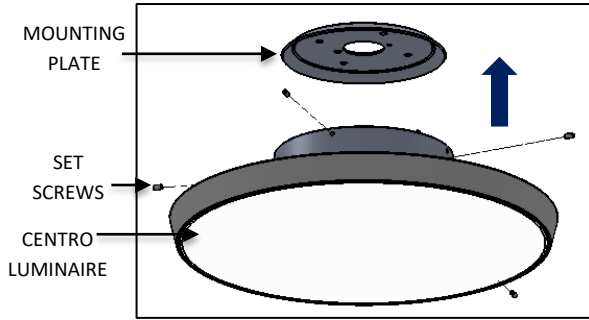

FIG. 4- MOUNTING PLATE DIS-ASSEMBLY
1. Unscrew SETSCREWS 4places and remove the MOUNTING PLATE out of LUMINAIRE as shown in FIG 4.